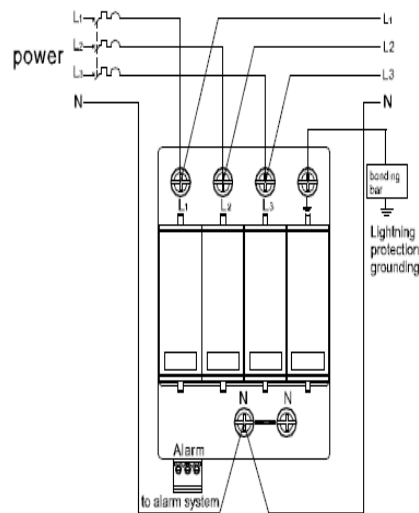
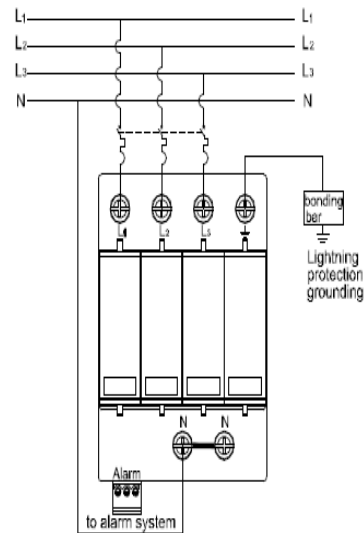

Figure 3.
Figure 4.
- 1.4, Wires with minimum 16mm2 cross-sectional area should be used for earthing connected to the equipment, Wires with minimum 10mm2 cross-sectional area should be used for power supply conductors connected to the equipment. Using "V" type wiring (see figure 3) (Kevin wiring), the carrying capacity of the conductors must accord with the locale load, according to IEC60364-5-523.
- 5.2. After mounted the SPD, wiring is allowed. We advice you wiring like Figure 3. In some case, if it is difficult to wire like Figure 3, you can wire like Figure 4, but the connected line should short, total length not more than 0.5m.